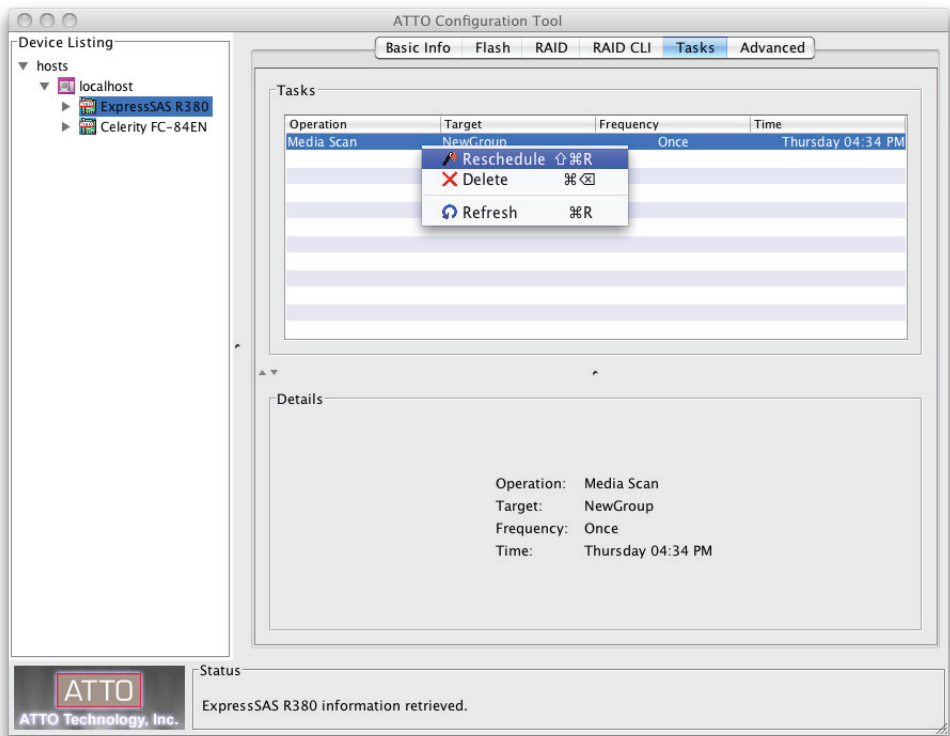

Figure 27
3. Control-click (or right-click) the RAID group and select Reschedule to change the Media Scan schedule, or Delete to delete the Media Scan. You may also select Task Management > Reschedule, or Task Management > Delete from the application menu. See **Figure 27** on page 30.